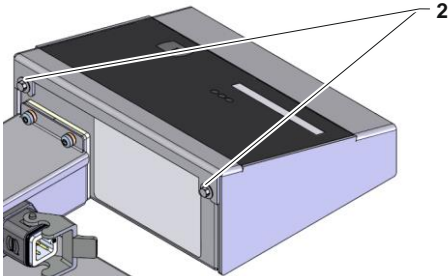

Fig. 7: Rear side of the evaluation unit
- Tighten screws (Label 2 → Fig. 7).